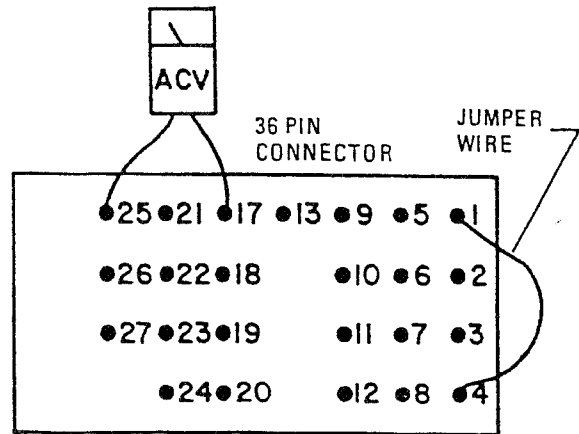

Figure 5-8. Back View Connector A (Model 5001)
4. Use an AC voltmeter capable of measuring 120 VAC and measure the voltage between the indicated connector pins located in Connector A. See figure 5-8.